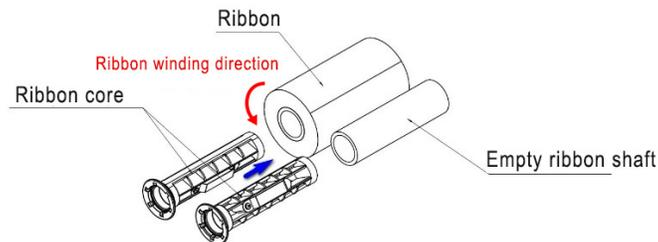

Figure 2.3.2
- b) When the inner diameter of ribbon shaft is 25.4mm (1 inch), thread the ribbon cores into the ribbon and the empty ribbon shaft respectively in the direction shown in the figure (see Figure 2.3.2).